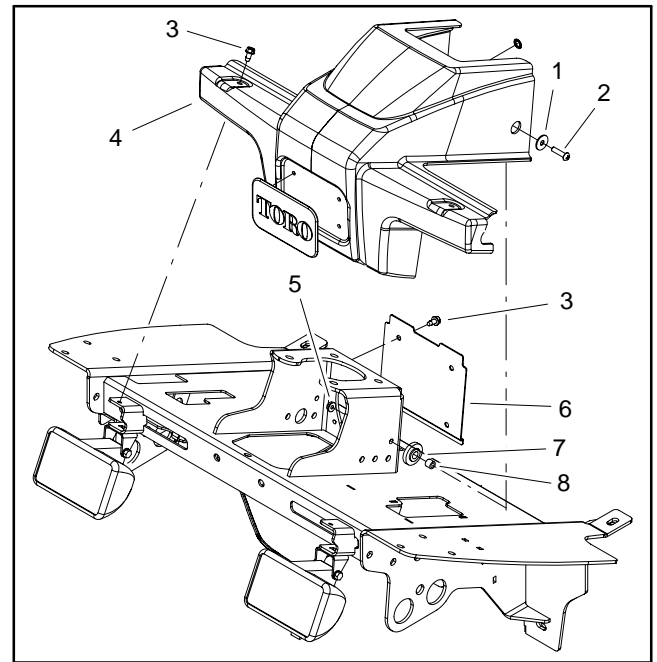
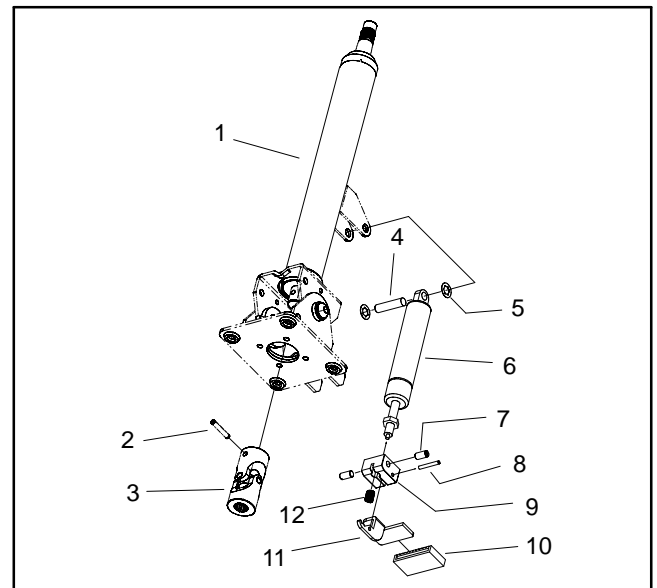

Figure 4
Figure 5
5. Remove platform shroud from machine to allow access to steering column fasteners (Fig. 4).
- D. Locate and retrieve two (2) rubber bushings and spacers.
8. Loosen and remove four (4) socket head screws (item 6) that secure steering control valve to steering column.
9. Loosen and remove four (4) socket head screws (item 17) and flange nuts (item 7) that secure steering column to machine.
11. Disassemble steering column assembly as needed using Figure 5 as a guide.
2. Slide steering column onto steering control valve. Secure steering column in place with four (4) socket head screws (item 17) and flange nuts (item 7).
3. Secure steering control valve to steering column with four (4) socket head screws (item 6).
5. Place rubber bushings and spacers into holes of platform shroud (Fig. 4). Position shroud in place and secure with removed fasteners.